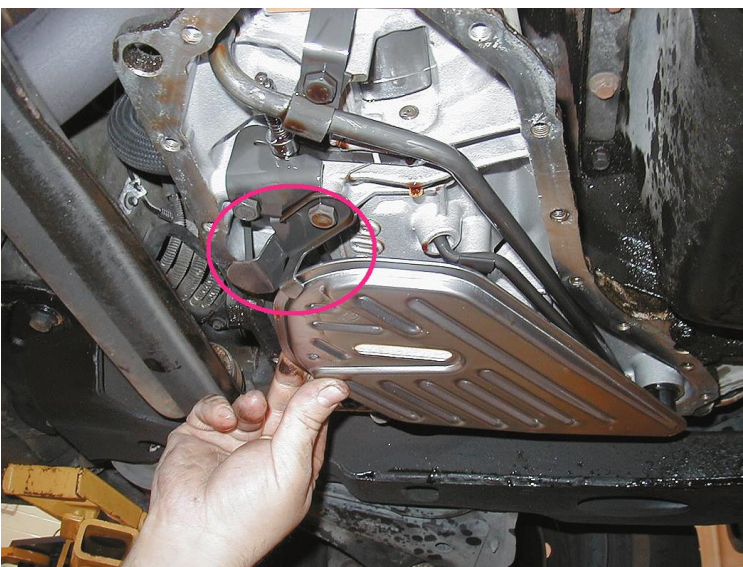

Figure 18. Install the filter and retaining clip.
STEP 6 Install a new filter using a new gasket or O-ring, and tighten the mounting bolts to the correct torque, if equipped. Some filters use a retaining clip. Figure 18.